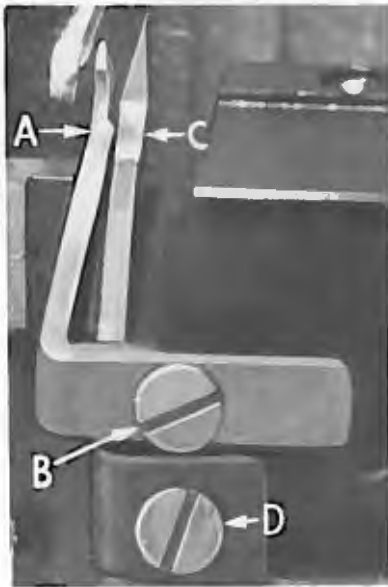

Fig. 6
Set the rear needle guard (A, Fig. 6) as high as possible without interfering with either the lower looper or movement of the lower knife holder, but still in position to deflect the needle forward .002 to .004 inch. Screw (B) is used to set rear needle guard. Make sure there is no interference between rear needle guard and lower looper.
Assemble front needle guard (C, Fig. 6). When lower looper is springing needle off back guard, set front needle guard as close as possible to needle without touching. Screw (D) is used to adjust and set front needle guard. After this setting make sure there is no interference between needle guards and differential feed dog.